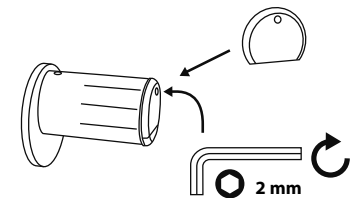

Fig. 120
- 4 Replace the front cover and screw it on tightly (Fig. 120).